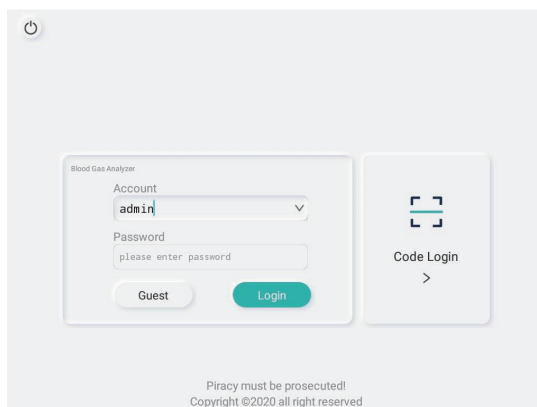

Figure 5-2 Login
1) Click the power-on button and the system will automatically perform a self-test. It will enter the login screen after the self-test is completed. (Figure 5-2)